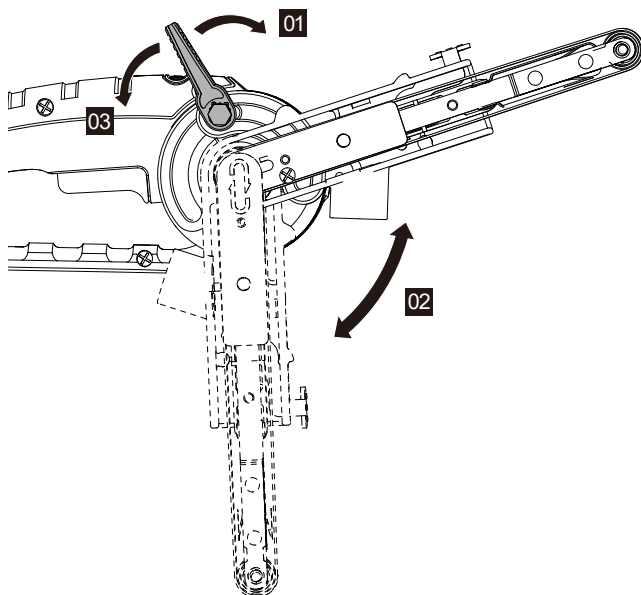

Figure 4
2. ADJUST THE ANGLE OF THE STRUT ARM (SEE FIG. 4)